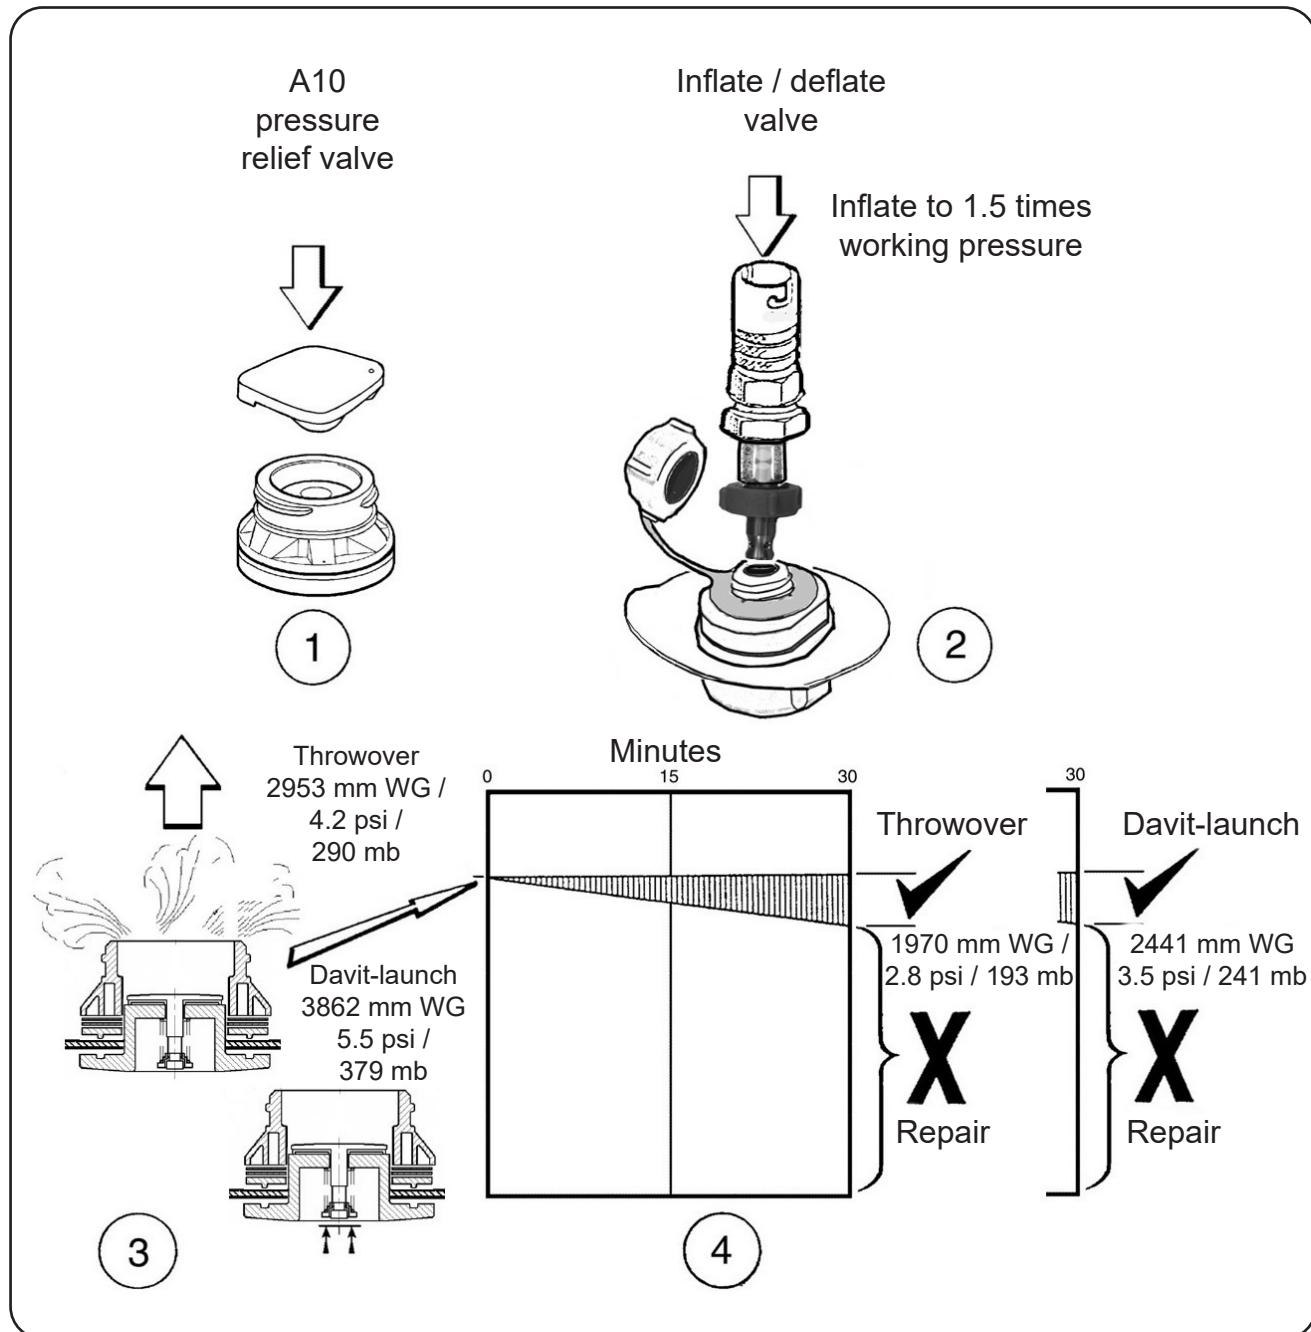

FIGURE 505
3.4.1 Carry out a NAP test as follows: Install the caps on both *relief valves*. Refer to FIGURE 505/1.
- (a) Install the caps on the pressure relief valves (PRV). Refer to FIGURE 505.
- (e) Make sure the valves open and release the excess pressure immediately. Refer to FIGURE 505. After 30 minutes recheck the PRV's. The indicated pressure on the manometer when the valves are closed must not be: